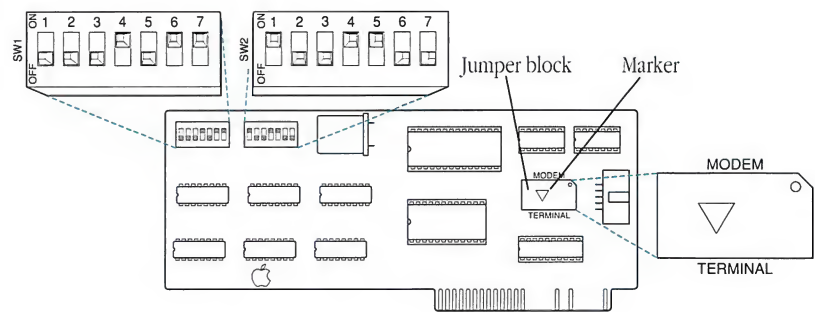

Figure 4-8 The Apple II Super Serial Card
Configuring the Apple II Super Serial Card takes two steps: setting the jumper block and setting the **DIP** switches. (See Figure 4-8.)
2. Set the switches as indicated in Table 4-1 and Figure 4-8.